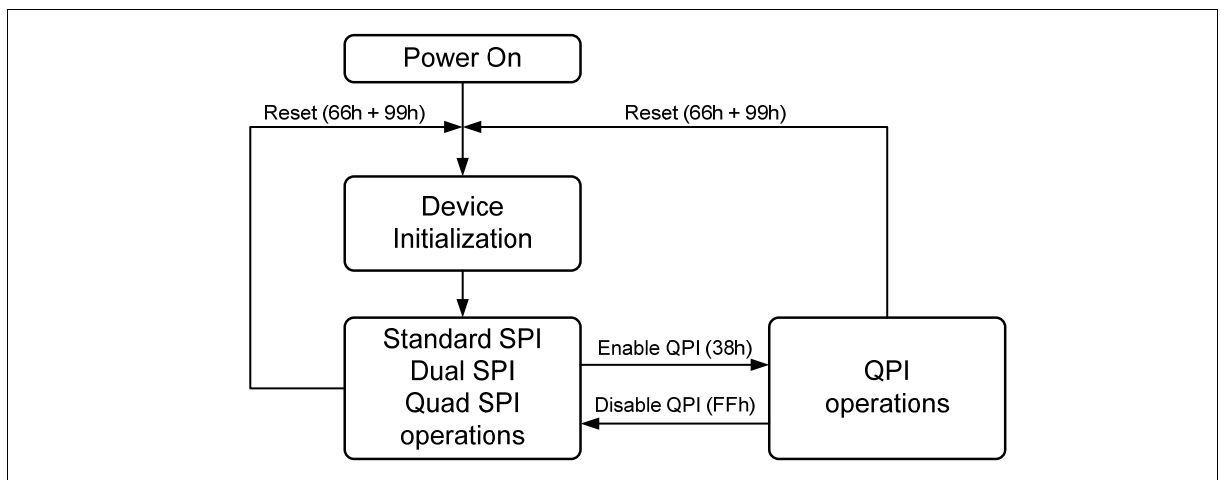

Figure 2 FM25Q08 Serial Flash Memory Operation Diagram
The FM25Q08 supports Quad Peripheral Interface (QPI) operations only when the device is switched from Standard/Dual/Quad SPI mode to QPI mode using the “Enable QPI (38h)” instruction. The typical SPI protocol requires that the byte-long instruction code being shifted into the device only via DI pin in eight serial clocks. The QPI mode utilizes all four DQ pins to input the instruction code, thus only two serial clocks are required. This can significantly reduce the SPI instruction overhead and improve system performance in an XIP environment. Standard/Dual/Quad SPI mode and QPI mode are exclusive. Only one mode can be active at any given time. “Enable QPI (38h)” and “Disable QPI (FFh)” instructions are used to switch between these two modes. Upon power-up or after a software reset using “Reset (99h)” instruction, the default state of the device is Standard/Dual/Quad SPI mode. To enable QPI mode, the non-volatile Quad Enable bit (QE) in Status Register-2 is required to be set. When using QPI instructions, the DI and DO pins become bidirectional DQ_0 and DQ_1 , and the WP# and HOLD# pins become DQ_2 and DQ_3 respectively. See Figure 2 for the device operation modes.